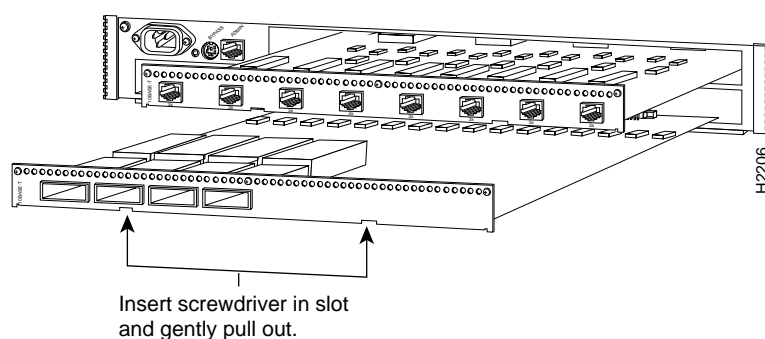

Figure 7 Installing or Removing Line Cards—WS-C1521 Shown
Step 3 Slide the line card into the slot in the concentrator. (See Figure 7.) Make sure the edge of the circuit board is aligned in the plastic card guides in the concentrator.
Step 3 Gently pry the line card out of the slot with a flat screwdriver. (See Figure 7.) After traveling approximately half an inch, the card will be free from the connector and will slide out easily.